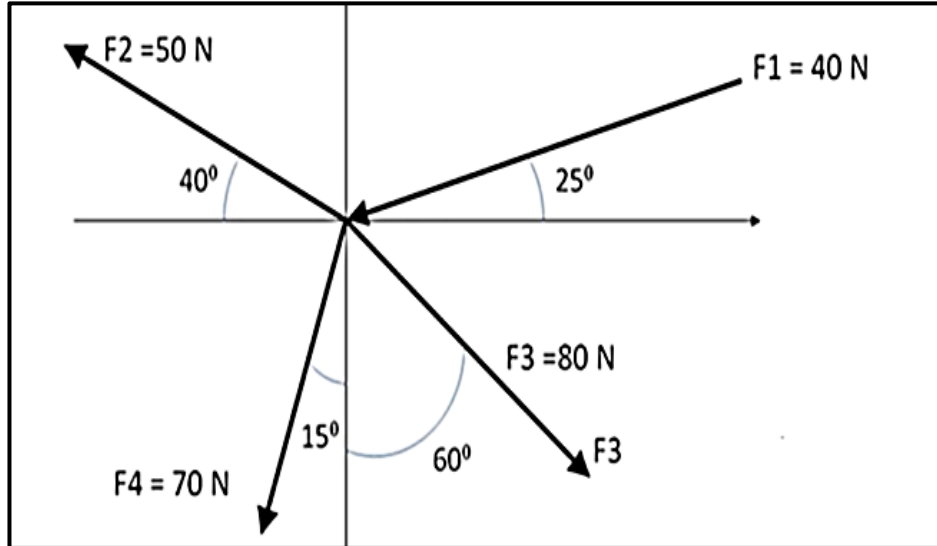

FIGURE 8.1
8.1 FIGURE 8.1 below shows a system of forces with four concurrently applied forces. Calculate the magnitude and direction of the equilibrant of this system of forces.